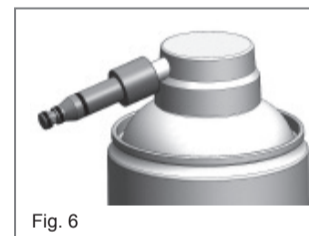

Fig. 6
2. To lubricate 500 series handpiece, put Spray Nozzle into nozzle of the lubrication oil can (Fig. 6). Connect handpiece with the nozzle (Fig. 7) and inject lubrication oil for 2~3 seconds.